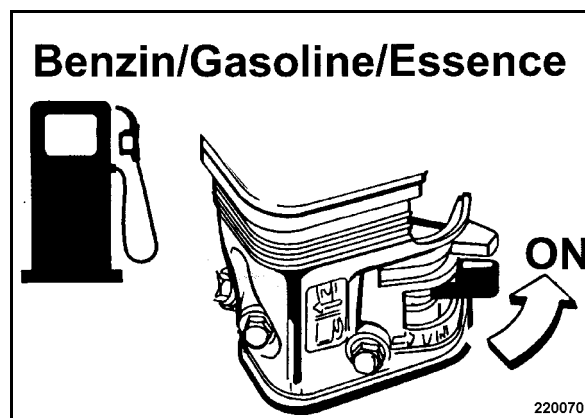

Fig. 18
- Open the fuel cock (Fig. 18) by turning in direction of arrow to the end stop.